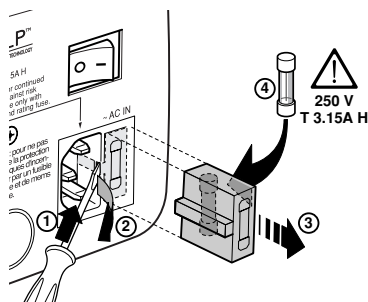

Fig. 2
- Only replace the safety fuse (on the power socket at the rear of projector) with a fuse identical in type and characteristics (T 3.15A H) (*Fig. 2*).